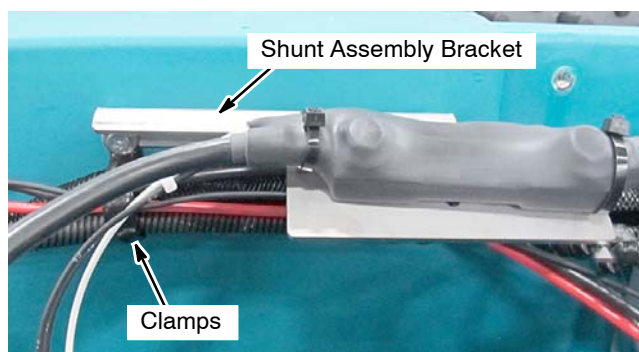

FIG. 30
16. Reinstall the shunt bracket assembly to machine using clamp screws as shown (FIG. 30).